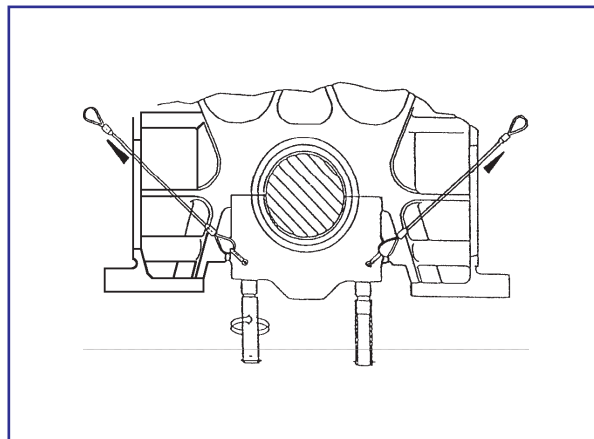

Fig 2 Mounting of Wire Straps
- 6) Fit the eye screws, diagonally, in the threaded holes in the guide bearing cap, see fig 2.